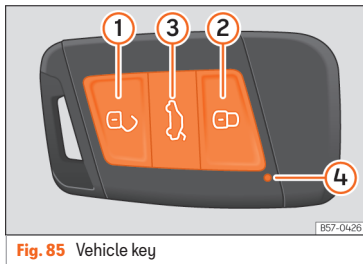

Fig. 85 Vehicle key
Key to the »» Fig. 85
When a button on the vehicle key is briefly pressed, the indicator lamp flashes ④ »» Fig. 85 once briefly, but if the button is held down for a longer period it will flash several times, such as for convenience opening.